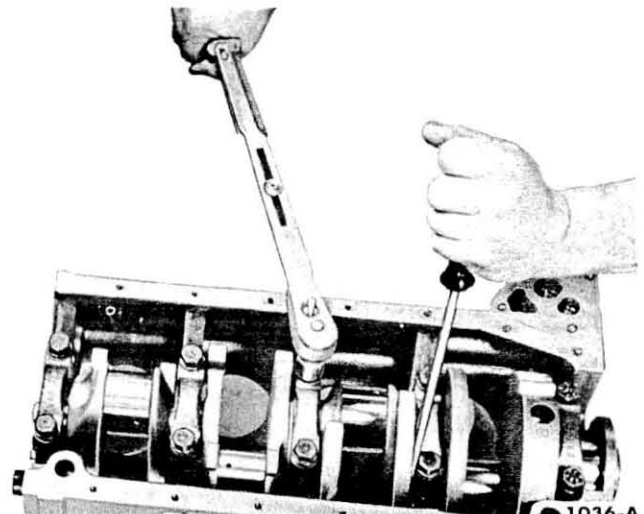

Fig. 39—Tighten Cap
4. Retain the forward pressure on the crankshaft, and tighten the cap bolts to specifications (Fig. 39).